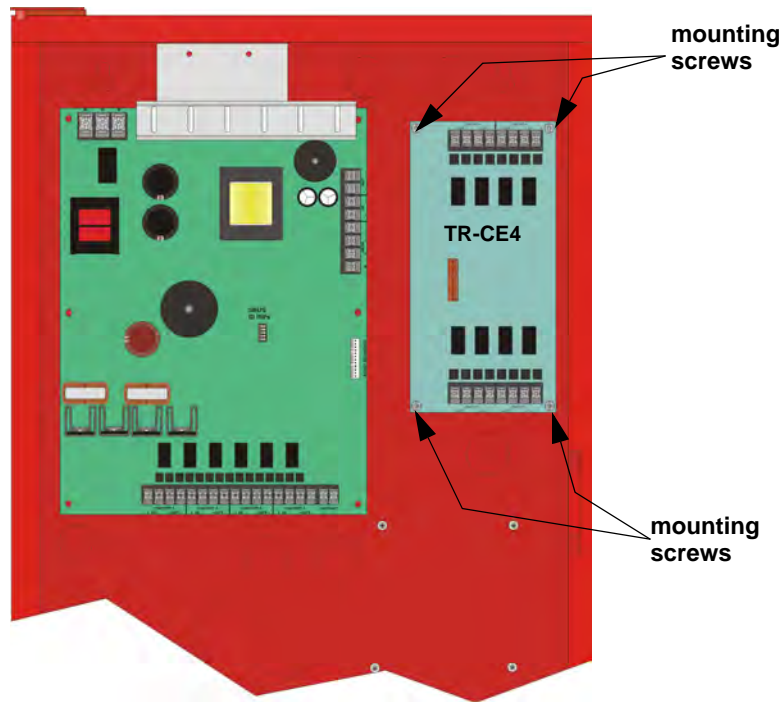

Figure 4.52 Mounting the TR-CE4
1. Using the four supplied screws mount the TR-CE4 in the cabinet as shown in Figure 4.52.